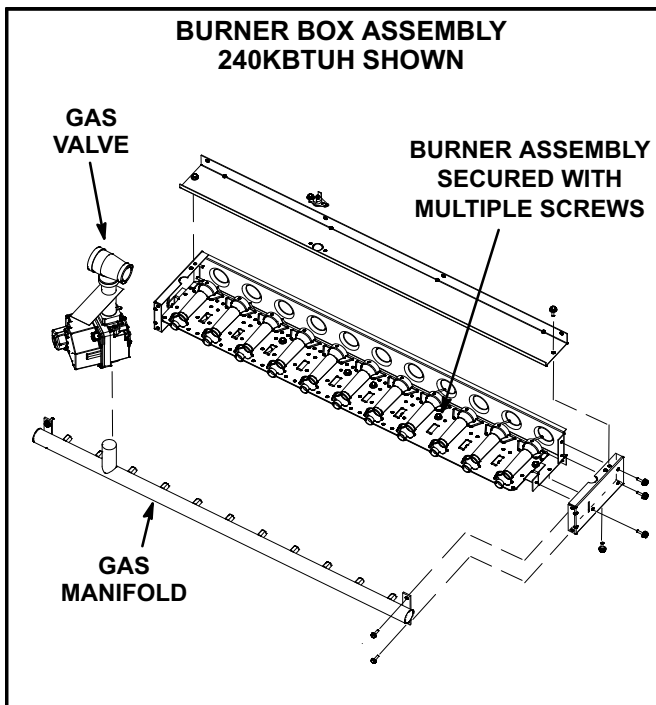

FIGURE 34
- 3- Remove screws securing burner assembly to burner support and remove assembly. See figure 34. Clean as necessary.